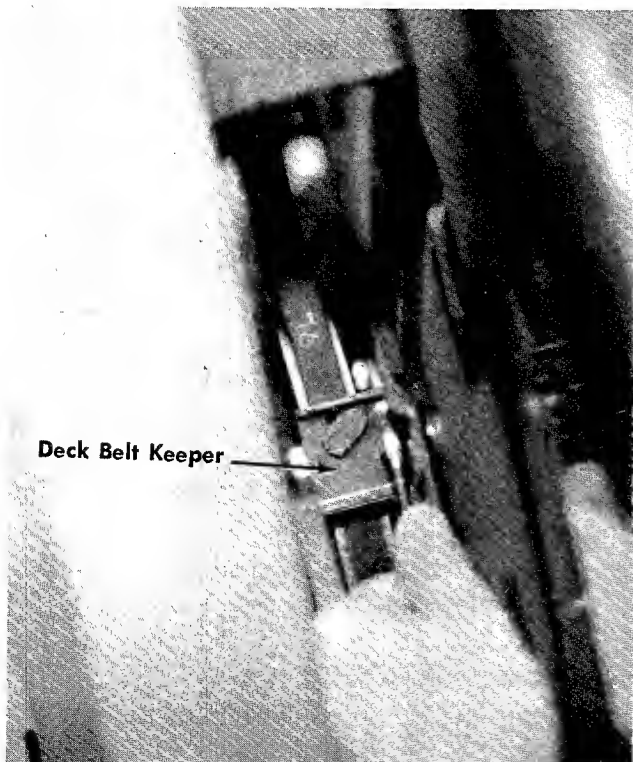

FIGURE 17. REMOVAL OF DECK BELT KEEPERS
- Step 3. Remove two belt keepers at the deck pulley and shoulder bolt. See figures 17 and 18.